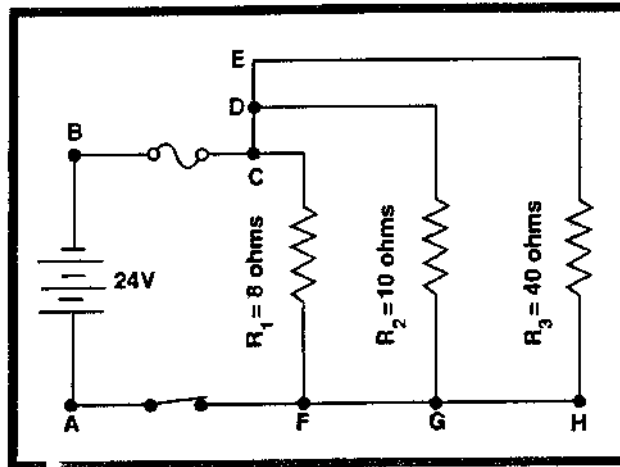

Fig. 9.9. Circuit Diagram.
34. (Refer to figure 9.9) Find the total current flowing in the wire between points C and D.
35. (Refer to figure 9.9) Find the voltage across the 8-ohm resistor.